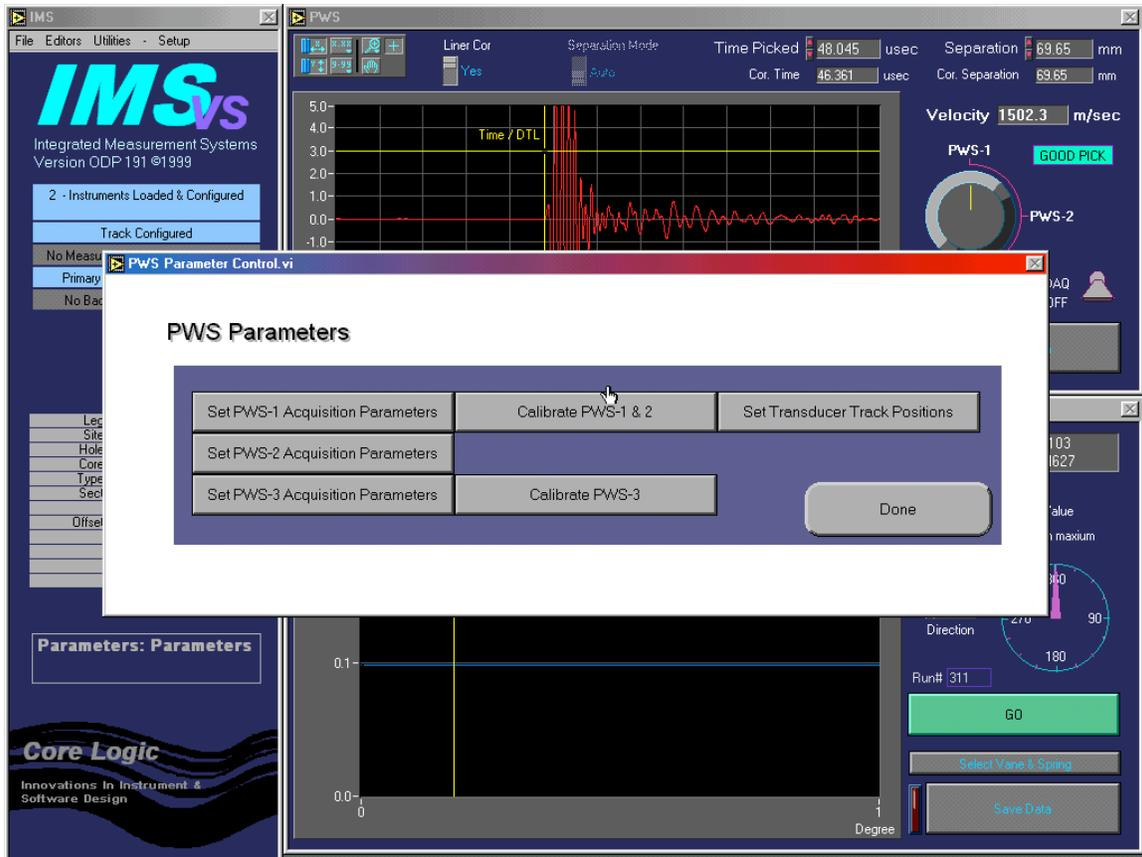
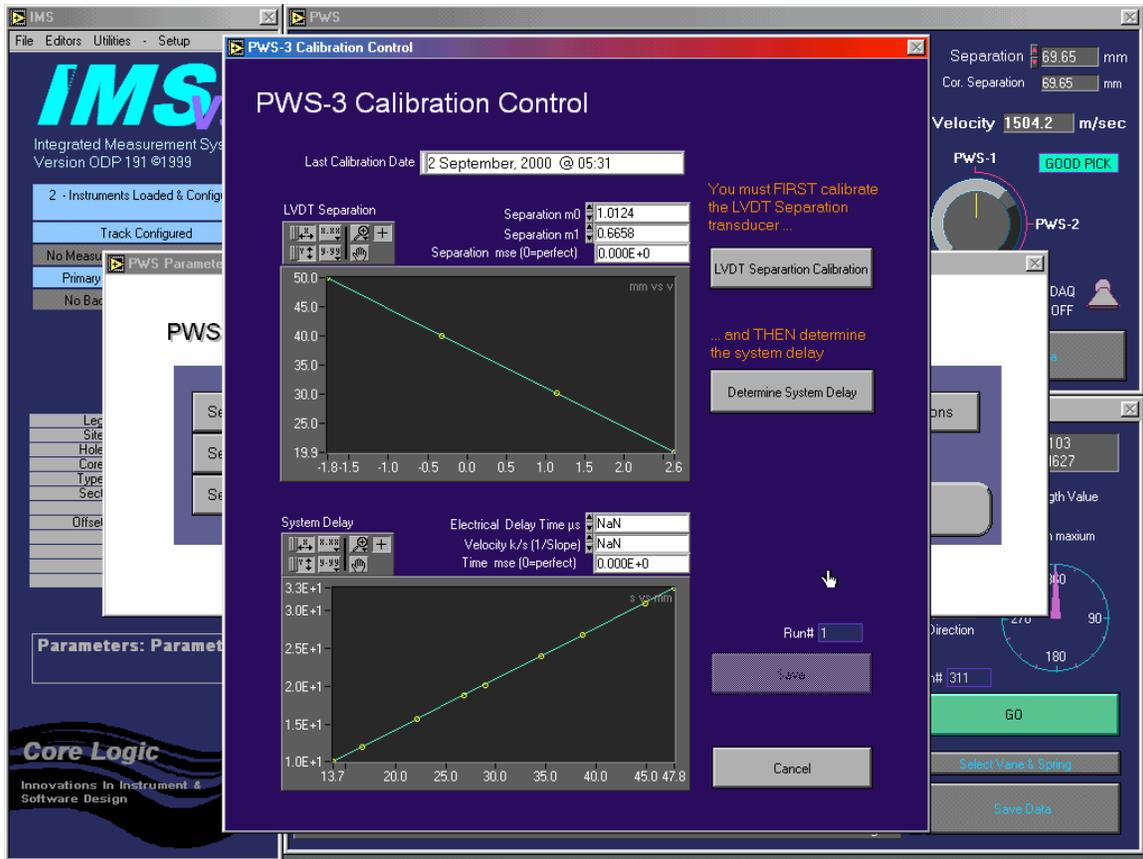

Figure 8. PWS Parameters.
Figure 10. PWS3 Calibration Control.
1. On the main IMS VS panel, under SETUP select PARAMETERS, then PWS. The PWS Parameters Screen will appear (Figure 8).
1. From the main IMS VS screen, under SETUP select PARAMETERS and then PWS. **Figure 8**, the PWS Parameters screen, will appear. From this screen, select CALIBRATE. PWS3 Calibration Control screen (**Figure 10**) will appear.